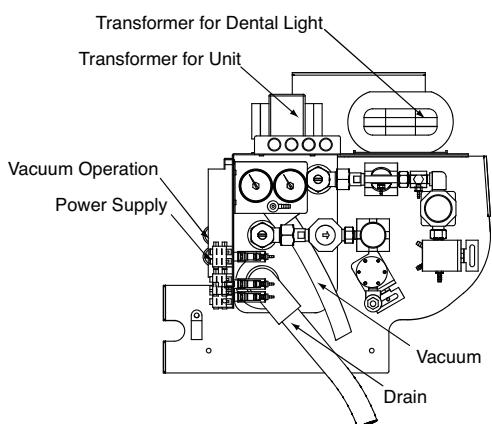

Fig.3-1 Setting position and plumbing layout
- 4) The setting position of the chair is shown in Fig.3-1 on Page 6 as recommended example.
- 2) The installation position and height from the floor of each pipe and cable conduit are shown in Fig.3-1.